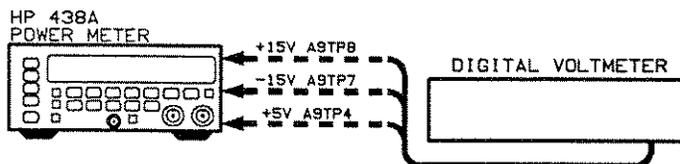

Figure 5-1. Power Supply Adjustments Setup
- Procedure**     1. See Figure 5-1. Connect the DVM between the +5V testpoint A9TP4 and ground. Adjust +5V, A9F3 until the DVM reads 5.00 ±0.05 volts.